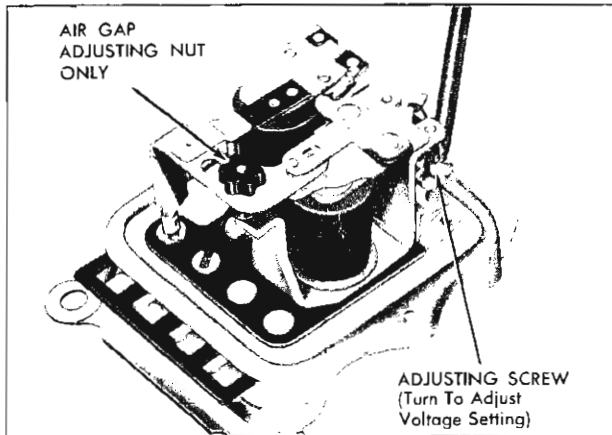

Fig. 9—Adjust Voltage Setting
2. **Delcotron tests good**—disconnect regulator connector, remove regulator cover and reconnect the connector. Then repeat step 6 and turn voltage adjusting screw (fig. 9) to raise setting to 12½ volts. Turn off loads, stop engine and proceed to step 7. If 12½ volts cannot be obtained, install a new regulator and repeat step 6.